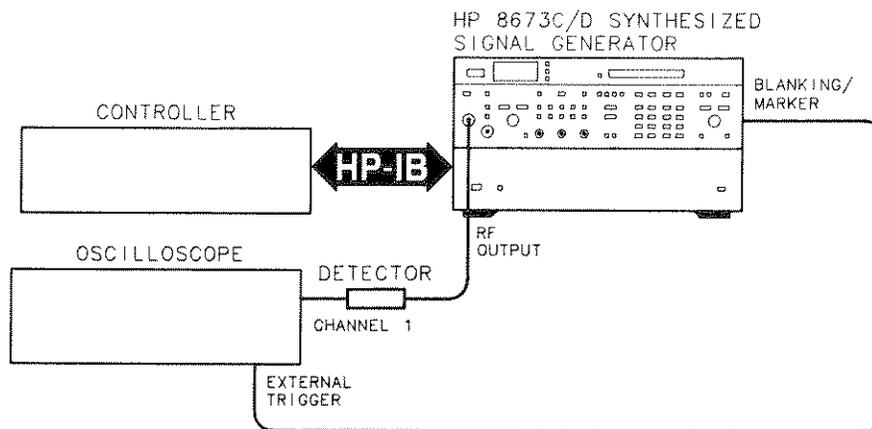

Figure 4-23. Output Level Switching Time Test Setup
1. Set up the equipment as shown in Figure 4-23. The external trigger input of the oscilloscope is connected to the Signal Generator's rear panel Blanking/Marker output. This signal will trigger the oscilloscope at the start of a frequency change when any sweep mode is selected. By making a simultaneous frequency and level change, the oscilloscope can be triggered to view the level switching process.